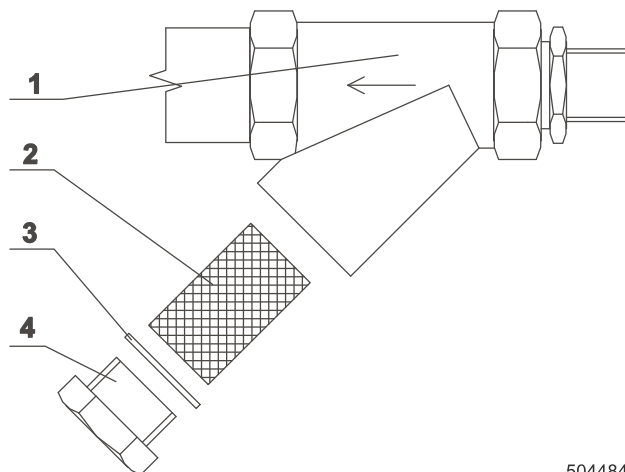

Fig. 5.12.A Screen of steam filter 504484
2. Unscrew the filter plug (fig.5.12.A, pos.4) and remove the filter screen (2).
4. Insert the filter screen (2) into the filter body (1) and tighten the plug (4).